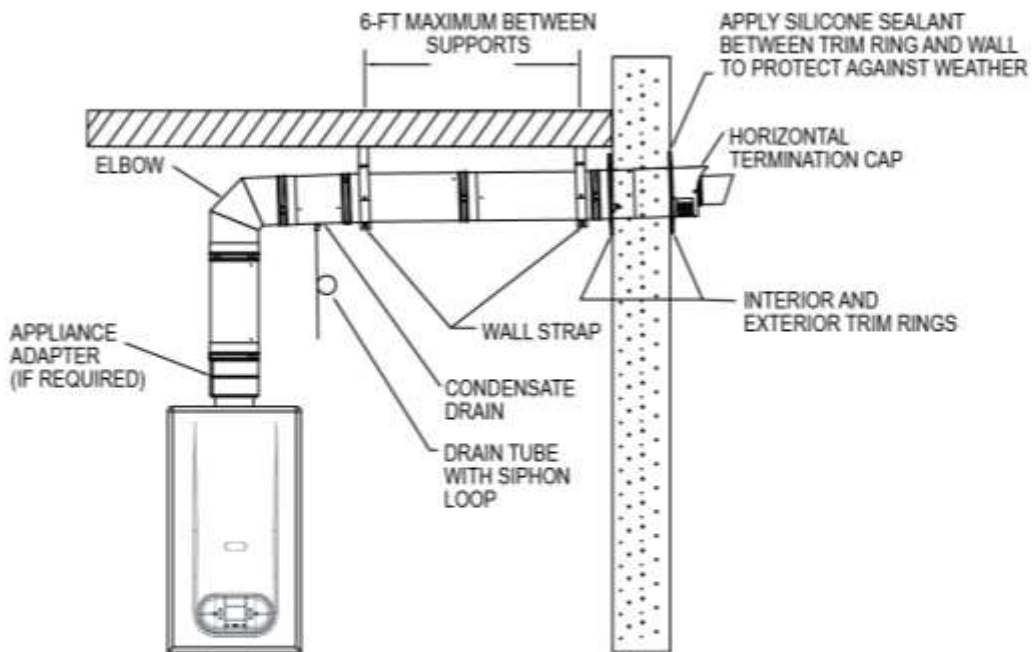
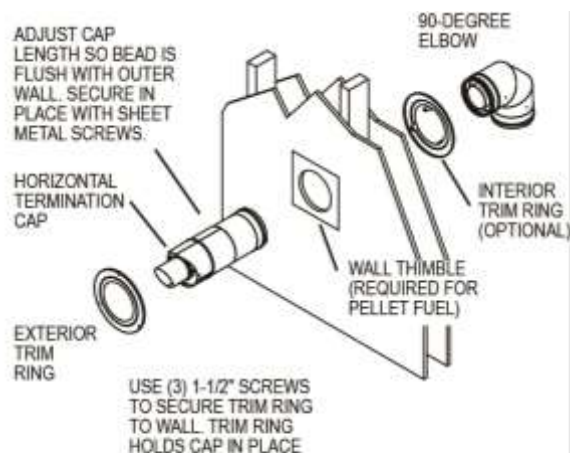

Figure 3
Figure 5
When determining the location of the wall penetration, be sure to account for the height of the Appliance Adapter (if needed) and the radius/height of the Elbow. For horizontal vent runs, always maintain at least a 1/4" rise per foot away from the appliance (**Fig 3**) to prevent collection of condensate or buildup of heat in the vent. Also make sure you have accommodated any minimum vent height, if any, that the appliance manufacturer may require.
3. Cut wall penetration. Refer to the appliance manufacturer for clearance to combustible requirements from the vent. To accommodate the flared end of the vent pipe, the minimum hole size should be 5-3/8" x 5-3/8" for a square cut, or 5-3/8" diameter for a round cut (**Fig 5**). Always check with the appliance manufacturer for any additional clearance to combustibles (if any) from the venting that may be required. For reference, the Outside Trim Ring provided with the Horizontal Termination Cap measures a maximum of 8-1/2" diameter, and has a hole pattern of 7" diameter. For pellet fuel installs, a wall thimble is required.
4. Layout the Vent. Verify which CVS vent lengths and components you will need for your installation. Note that the Horizontal Termination Cap must fit at a **minimum 6 inch** distance outside of the exterior wall (**Figs 3 & 4**). This distance is needed to ensure proper airflow and pressure within the CVS vent system. To ensure this distance, the Horizontal Termination Cap is adjustable. Also, Telescoping Adjustable lengths are available.
6. Support Vent. Wall Straps are required every 8-ft of horizontal run in order to properly support the vent system (**Fig 3**). If the installation extends through the wall in less than 8-ft of vent pipe, a wall strap is not required. Wall Straps are designed to provide a 1" standoff from nearby walls or ceilings. Use (2) 1-1/2" wood screws to secure each Wall Strap.
7. Install Wall Termination. If the optional Interior Trim Ring will be installed, bend the three tabs and slip the ring onto the pipe section previous to the Horizontal Termination Cap. Adjust the length of the Horizontal Termination Cap so that the inside edge of the bead of the black-painted exterior portion is flush with the outer wall. This bead is used in combination with the Outer Trim Ring (supplied with the cap) to hold the cap in place at the wall. Once the Horizontal Termination Cap has been adjusted to the correct length, secure it in place with (3) 1/2" sheet metal screws (**Fig 5**). Then twist-lock on the Horizontal Termination Cap, and align the cap so the air inlet openings are downward (**Figs 3 & 4**).
Install the Outer Trim Ring over the Horizontal Termination Cap and secure in place with the (3) 1-1/2" wood screws (**Fig 5**). Seal the Outer Trim Ring against the exterior wall using weatherizing silicone sealant. If the Interior Trim Ring is installed, slide the Trim Ring against the interior wall and secure in place with (3) 1-1/2" wood screws. Secure the Interior Trim Ring to the CVS pipe by using (3) 1/2" sheet metal screws through the tabs in the Trim Ring. Be sure you do not drill through the gasket in the outer wall of the CVS vent pipe.